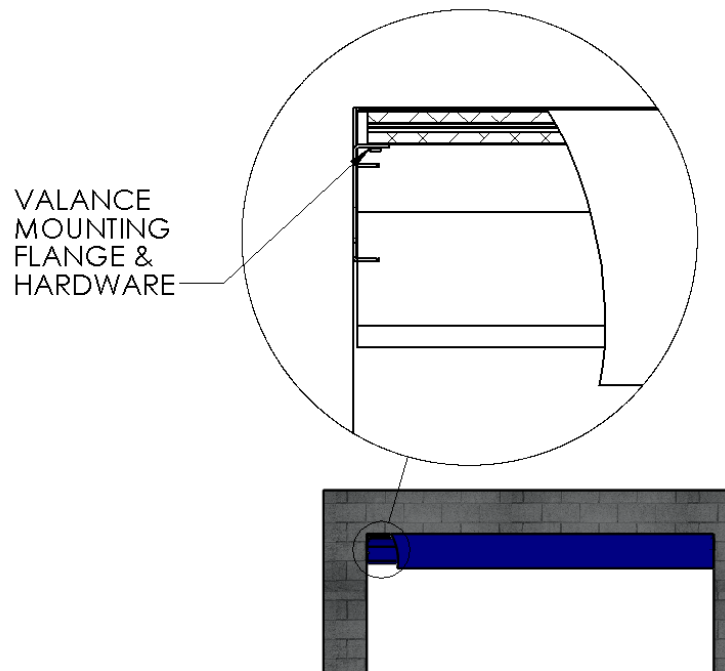

Figure 8 INSTALL VALANCE ASSEMBLY
1. Install the Valance Assembly onto the top of the bent flanges of the installed Header Mounting Brackets using the hardware provided in the Valance Beam. (Figure 8 INSTALL VALANCE ASSEMBLY)